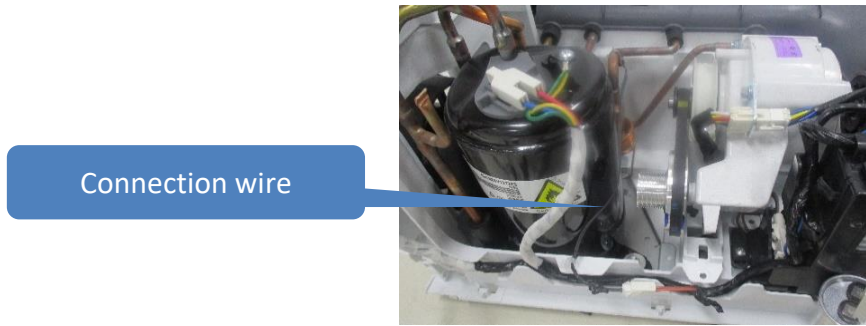

Fig.2
- ① If the connection wire of NTC is broken the E33 warning will occur on the power. It' s recommended that user need to repair or change the NTC. (Fig.2)